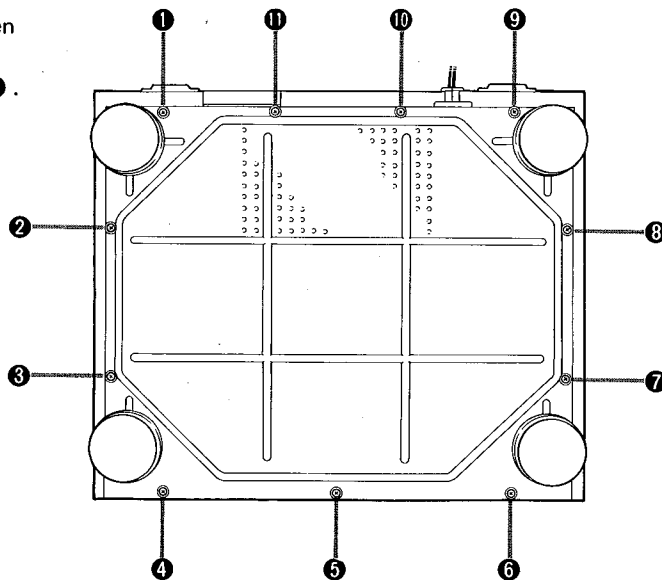

Fig. 1
1. Remove screws ① to ⑪ in Fig. 1 and then remove the cabinet bottom.
*Toothed washer is attached to the screw ⑤.